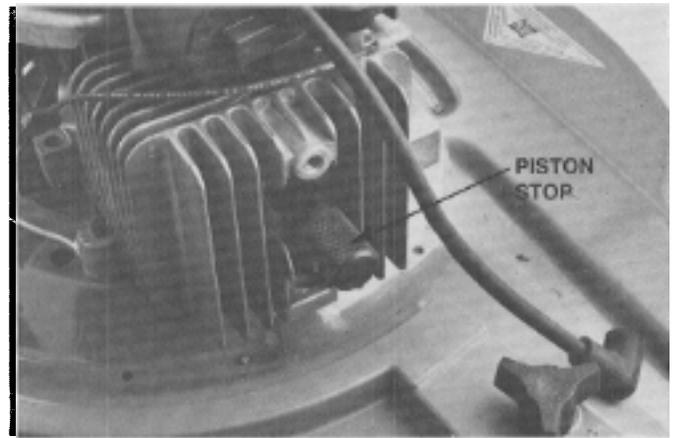

Figure 51
1. Remove spark plug and install piston stop (p/n 677389) (**Figure 51**).